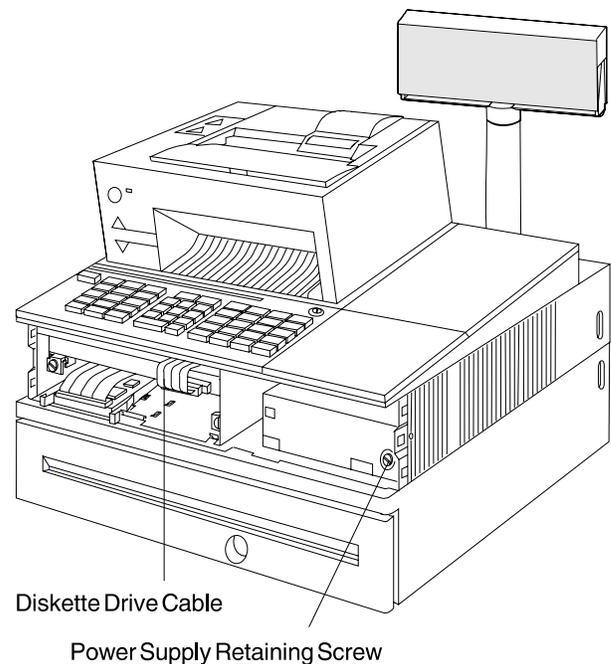

Figure 3-12. Power Supply
7. Turn the power supply retaining screw, located at the lower right front counterclockwise, 2 to 2 1/2 turns or until the locking tab is fully out of the slot. See Figure 3-12.